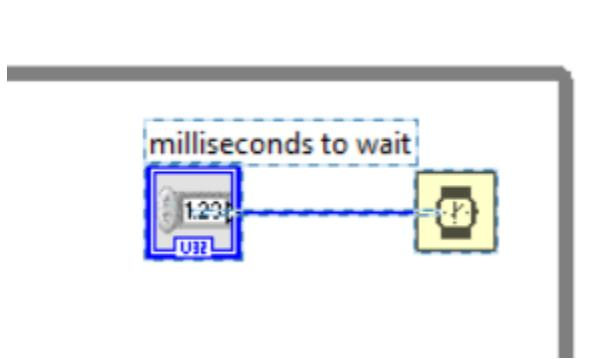

Fig.4. Wait(ms)
16. You can add **wait (ms)** into your **while loop** to see the locking more clearly, as shown in Fig. 4.